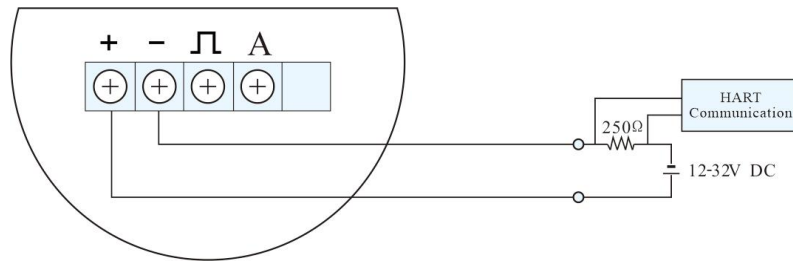

Fig. 11
1. Connect to external power supply DC12V~32V, 4-20mA DC output+HART (Fig. 11)